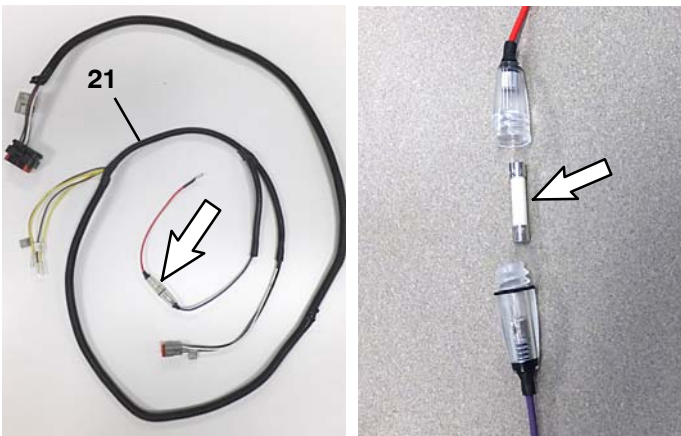

FIG. 4
4. IMPORTANT: To prevent possible damage to telemetry system during install, remove the in-line fuse from the telemetry harness (21) (FIG. 4)